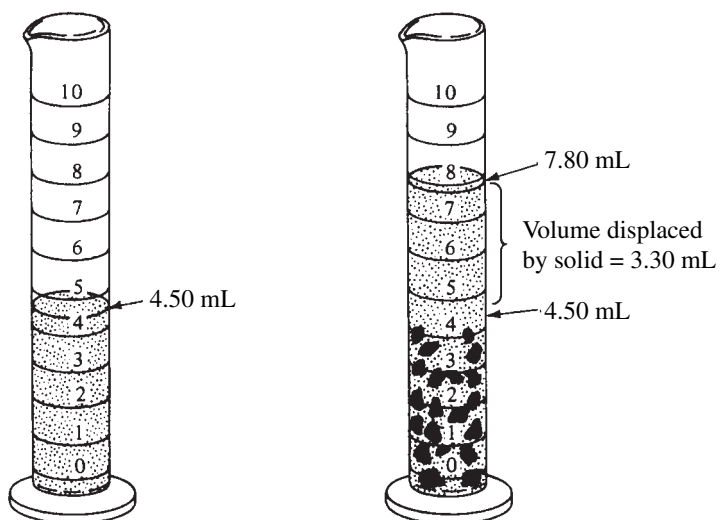

Figure 2.1
2. Obtain a mass of the sample of approximately 5 g. Be sure to record the exact quantity to the nearest 0.001 g (5).
3. Choose either a 10-mL or a 25-mL graduated cylinder. For small metal pieces, you should use the 10-mL graduated cylinder. For large metal pieces, you should use the 25-mL graduated cylinder. Fill the graduated cylinder approximately halfway with water. Record the exact volume to the nearest 0.05 mL (6). [Depending on the number of subdivisions between milliliter divisions, you can read to the hundredth's place. For example, you can read the 10-mL graduated cylinder to the hundredth's place where only a 0 (the reading is directly on a subdivision, e.g., 0.00) or a 5 (anywhere between two adjacent subdivisions, e.g., 0.05) can be used.]
4. Place the metal sample into the graduated cylinder. (If the pieces of metal are too large for the opening of the 10-mL graduated cylinder, use the larger graduated cylinder.) Be sure all of the metal is below the water line. Gently tap the sides of the cylinder with your fingers to ensure that no air bubbles are trapped in the metal. Read the new level of the water in the graduated cylinder to the nearest 0.05 mL (7). Assuming that the metal does not dissolve or react with the water, the difference between the two levels represents the volume of the metal sample (8) (Figure 2.1).